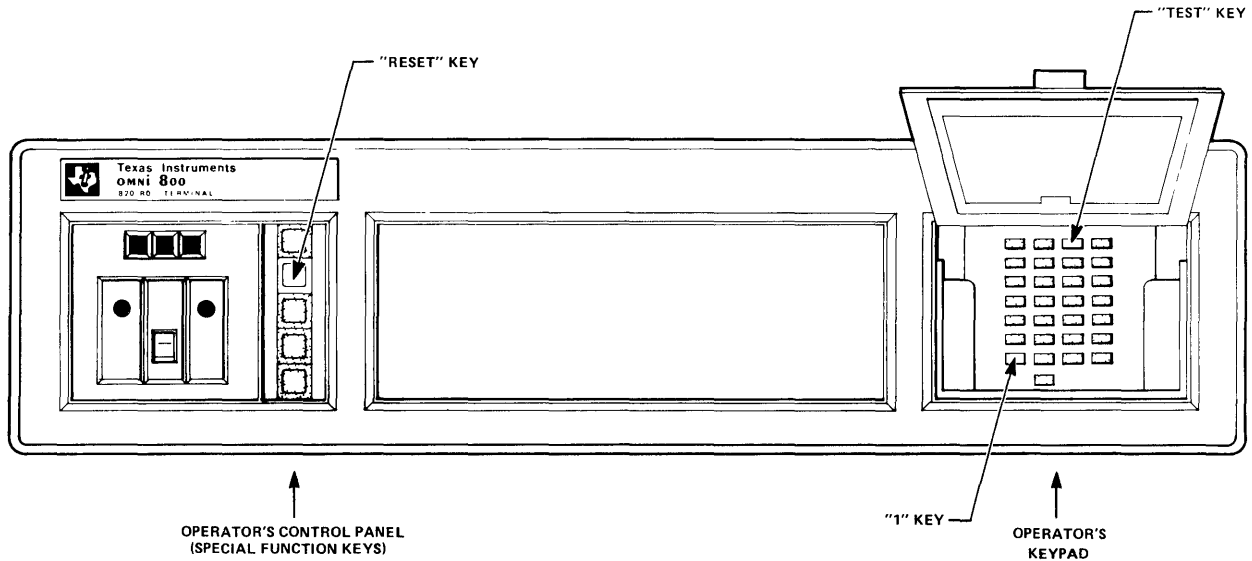

Figure 2-7. Controls for Model 820 RO Self-Test
- a. Set the LINE/•/LCL switch to the LCL position (lower edge depressed). The LINE/•/LCL switch is the only switch on the Model 820 RO operator's control panel. See Figure 2-7.
2.8.2 MODEL 820 RO. Referring to Figure 2-7, locate the TEST and 1 keys on the operator's keypad and the RESET key on the operator's control panel. Proceed as follows: